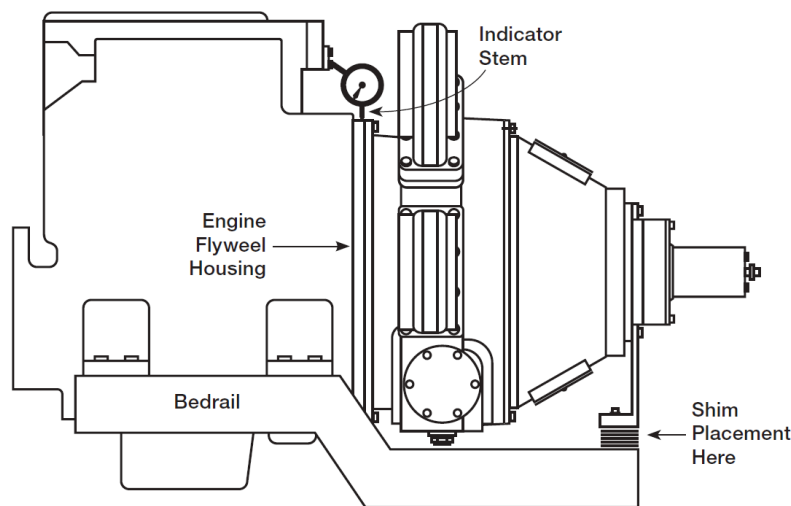

Figure 2: Power Pump Drive and PTO installation example.
- 3.1.3 Locate a dial indicator as per Figure 2 and set it to zero in order to detect an eventual flywheel housing deflection.
- 3.1.5 Carefully release the lifting force and properly shim, as shown in Figure 2, in order keep the dial indicator at zero. If indicator changes after bolts are tightened, re-shim until indicator remains at zero.